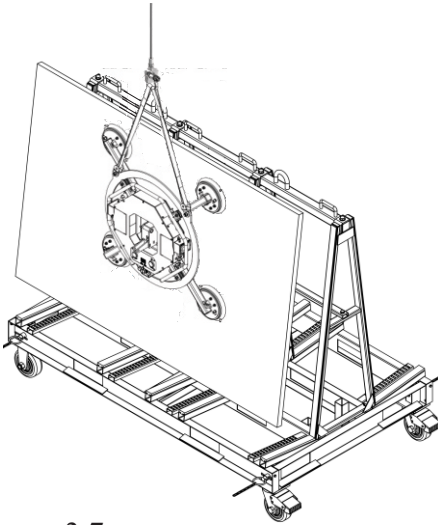

Figure 3.7
**Step 6:** Lift and move the glass sheet (Figure 3.7 and 3.8).